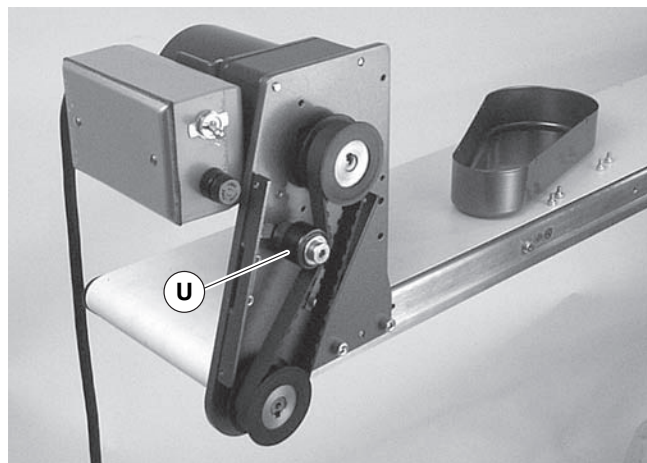

Figure 15
2. Loosen tensioner (Figure 15, item U).
4. Loosen tensioner (Figure 15, item U).